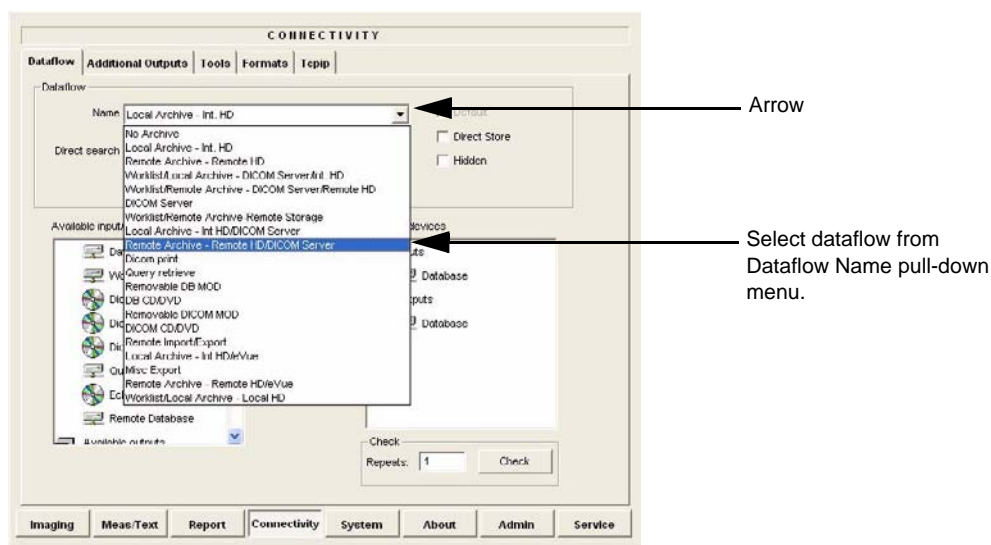

Figure 3-70 Select Dataflow
- 4.) Select the arrow to the right of the Name field to list all dataflows in a pull-down menu, see Figure 3-70.
- 5.) From the Dataflow Name pull-down list, select the dataflow you want to configure - see Figure 3-70.